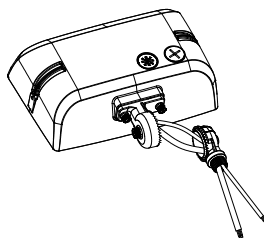

figure 1.2
Step 3: Pass the wire through from the other bracket and fix it with screws.(Watch out not to scratch the wire);(figure1.2)